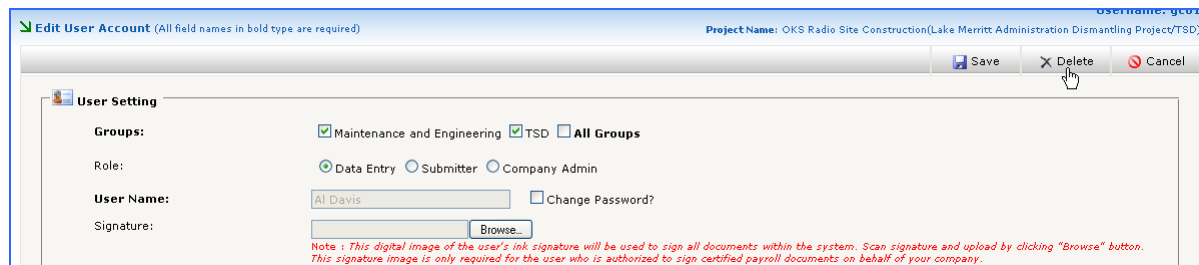

Figure 27- User Setting Screen
1. To delete a user, from the “User Setting” screen, click on “Delete” from the “User Setting” screen (Figure 27).